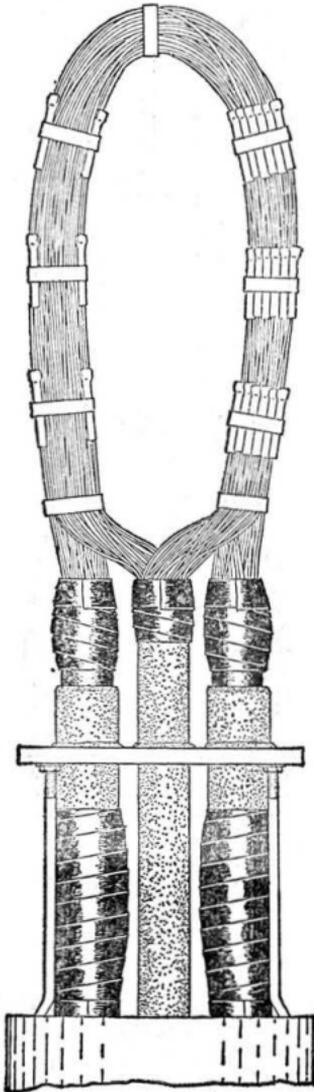

Fig. 5
3.01 The load coil case should be buried parallel to the trench for the main cable. In rural areas or whenever the closures are offset several feet from the main cable path bury the case parallel to the trench provided to the closure. The base plate will be approximately 14 inches above ground. Allow sufficient stub length at each location for at least 4 feet of conductor ends above the base plate. Arrange splice as shown in Fig. 5.